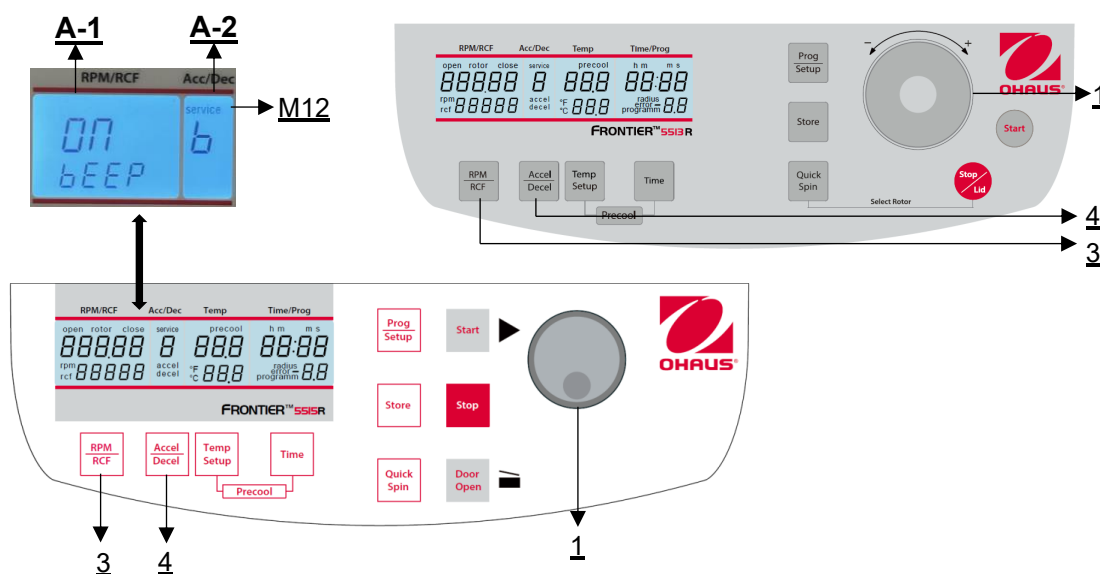

Figure 30
Proceed as described under point 4.1.1 to enter this program mode and then press the key **"Accel/Decel"** (4). In the display **"Acc/Dec"** (A-2) the word **"Service"** (M12) flashes. Now select the letter **"b"** with the touch wheel (1). As a result, in the display **"RPM | RCF"** (A-1), the word **"ON/BEEP"** appears. After pressing the key **"RPM | RCF"** (3), you can turn the keyboard sound (On) or (Off) with the touch wheel (1) (see figure 30).